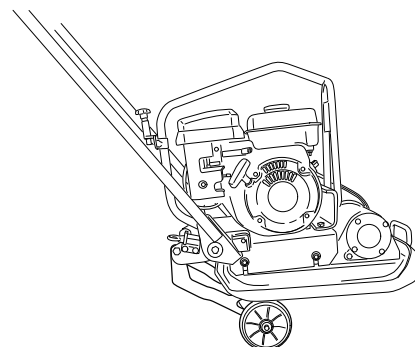

Figure 12. Moving Wheel kit
5. Pull back the handle to the rear, and lift up the vibrating plate by wheel kit. Then, move the plate compactor keeping horizontal position (Figure 12).